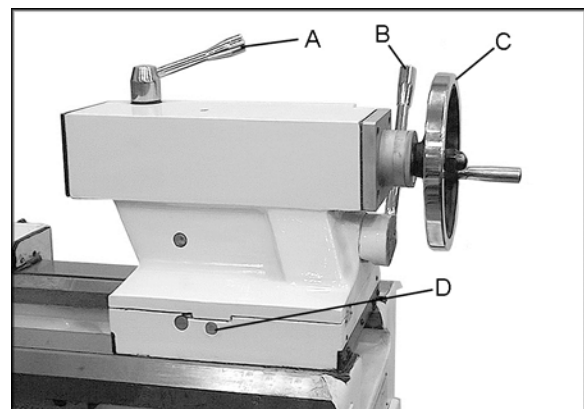

Figure 17 – Tailstock controls
19. **Tailstock Quill Clamping Lever (A, Figure 17):** Located on the tailstock. Rotate clockwise to lock the sleeve. Rotate counterclockwise to unlock.
20. **Tailstock Clamping Lever (B, Figure 17):** Lift up to lock. Push down to unlock. If the tailstock has a heavy load, tighten the hexagon head at right side of tailstock for auxiliary locking.
21. **Tailstock Quill Handwheel (C, Figure 17):** Rotate clockwise to advance quill and counterclockwise to retract it.
22. **Tailstock Off-Set Adjustment** (D, Figure 17): Two hex socket cap screws located on the tailstock base are used to off-set the tailstock for cutting tapers. Loosening one screw while tightening the other will off-set the tailstock. Do not clamp the tailstock lock handle when adjusting.